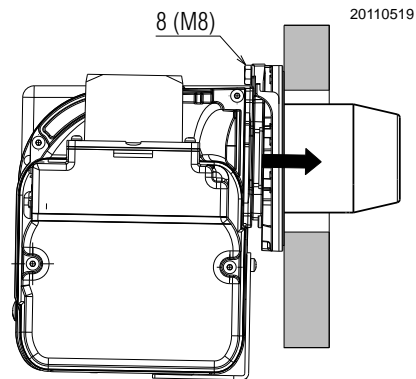

Fig. 8
- Insert the burner, and fix it in place with the nut 8)(Fig. 8).